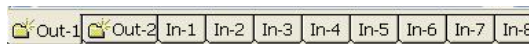

figure 3-32
5、 after reading import information,enter outport,such as figure3-32.